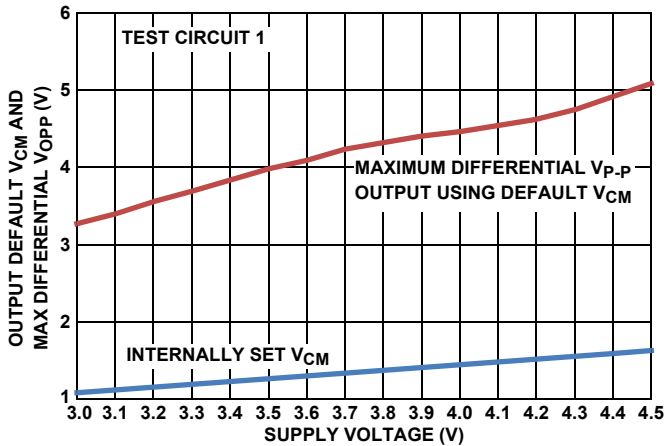
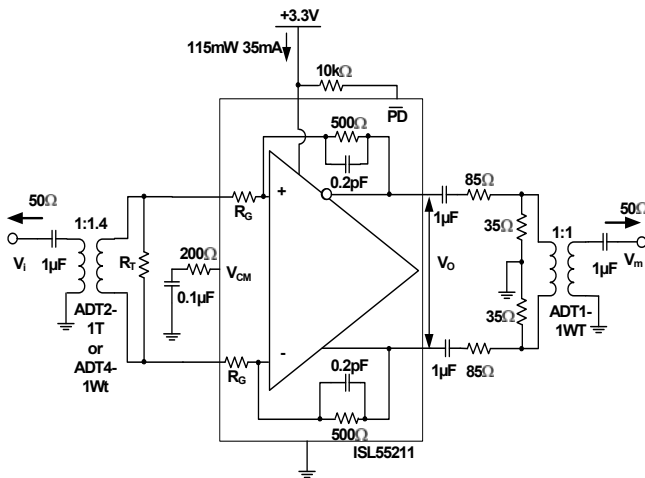
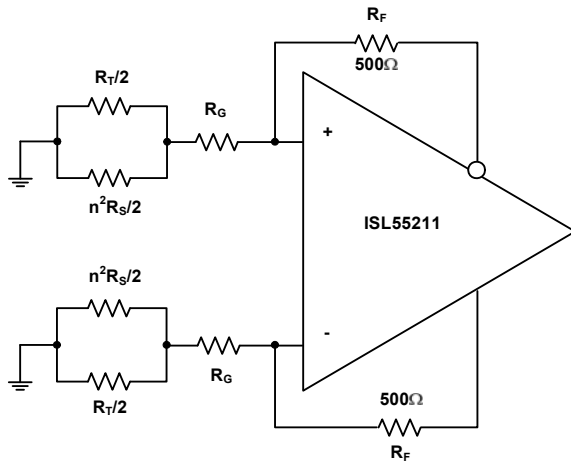
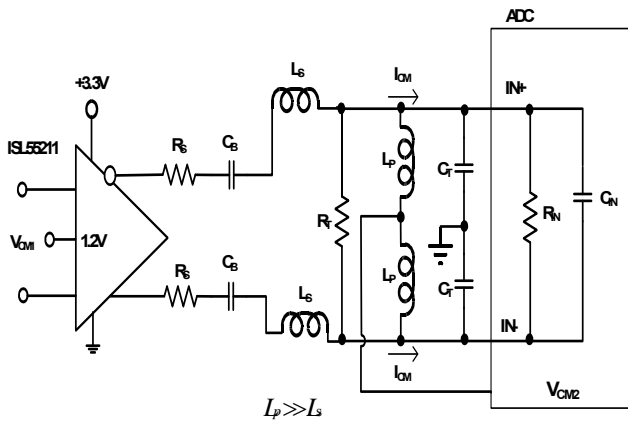

FIGURE 27. DEFAULT  $V_{CM}$  AND MAX  $V_{OPP}$  vs SUPPLY VOLTAGE
FIGURE 29. TEST CIRCUIT 1
FIGURE 35. NOISE GAIN MODEL FOR THE TRANSFORMER COUPLED INPUT CIRCUIT OF FIGURE 29
FIGURE 37. AC-COUPLED, HIGHER FREQUENCY RLC INTERSTAGE FILTER DESIGN
Test Circuit 1 of Figure 29 forms a starting point for many of the characterization curves for the ISL55211. Since most lab sources and measurement devices are single-ended, this circuit converts to differential at the input through a wideband transformer and would also be a typical application circuit coming from a single-ended source. Assuming the source is a 50 $\Omega$  impedance, the internal  $R_G$  resistors and external  $R_T$  are set to provide both the input termination and the gain. Since the inverting summing nodes act as virtual ground points for AC signal analysis, the total termination impedance across the input transformer secondary will be  $(2 * R_G) || R_T$ . Setting this equal to  $n^2 * R_S$  will give a matched input impedance inside the bandwidth of the transformer (where "n" is the turns ratio). The amplifier gain is fixed by the selected input  $R_G$  element and the internal 500 $\Omega$  feedback resistors. While the ISL55211 is internally a Voltage Feedback Design (VFA) to give the lowest possible noise, internal compensation caps hold the bandwidth over gain setting approximately constant at 1.4GHz. For wider small signal bandwidth at lower gains, consider the ISL55210, which provides >2.2GHz at a gain of 12dB.
Working with a transformer coupled input as shown in Figure 29, or with two DC blocking caps from a differential source, means the output common mode voltage set by either the default internal  $V_{CM}$  setting, or a voltage applied to the  $V_{CM}$  control pin, will also appear as the input common mode voltage. This provides a very easy way to control the ISL55211 I/O common mode operating voltages for an AC-coupled signal path. The internal common mode loop holds the output pins to  $V_{CM}$  and, since there is no DC path for an  $I_{CM}$  current back towards the input in Figure 29, that  $V_{CM}$  setting will also appear as the input common mode voltage. It is useful, for this reason, to leave any input transformer secondary centertap unconnected. The internally set  $V_{CM}$  voltage is referenced from the negative supply pin. With a single 3.3V supply, it is very close to 1.2V but will change with total supply voltage across the device as shown in Figure 27.
Most of the characterization curves starting with Figure 29 then get different gains by changing the connections to the two pairs of input  $R_G$  connections, as shown on the pin configuration drawing on page 2. Two input turns ratios are intended for Test Circuit 1; either a 1:1.4 turns ratio (ohms ratio of 2) or a 1:2 turns ratio (ohm ratio of 4). The specific transformers shown in Figure 29 are representative of broadband RF transformers but alternate devices and manufacturers of these turns ratio devices are certainly applicable. The output side of this test circuit presents a differential 200Ω load while converting the differential to single-ended through a resistive attenuator and a 1:1 transformer. This inserts approximately a 17dB insertion loss that is removed to report the characteristic curves. For load tests below the 200Ω shown in Figure 29, a simple added shunt resistor is placed across the output pins. For loads > 200Ω, the series and shunt load R's are adjusted to show that total load (including the 50Ω measurement load reflected through the 1:1 output measurement port transformer) and provide an apparent 50Ω differential source to that transformer. This output side transformer is for measurement purposes only and is not necessary for final applications circuits. There are output interface designs that do benefit from a transformer as part of the signal path as shown in Figure 1. In that case, the 1:1.4 output side transformer becomes part of a filter design and recovers the filter insertion loss from the amplifier output pins to the ADC inputs.
The characterization circuit of Figure 29 shows one possible input stage interface that offers several advantages. Where AC coupling is adequate, the circuit of Figure 29 simplifies the input common mode voltage control. If the source coming into this stage is single-ended, the input transformer provides a zero power conversion to differential. The two gain resistors ( $R_G$  in Figure 29) provide both a portion of the input termination impedance and the gain element for the amplifier. For 50Ω systems, these  $R_G$  resistors are too high with the turns ratios shown in Figure 29 to provide the full match and an external  $R_T$  resistor is required. This  $R_T$  element goes away at the highest gain setting using a 1:2 input turns ratio transformer.
This input interface also simplifies the input common mode control. The  $V_{CM}$  pin controls the output common mode voltage. In most DC-coupled FDA applications, the input common mode voltage is determined by both this output common mode and the source signal. In a configuration like Figure 29, there is no path for a common mode current to flow from output to input, so the input common mode voltage equals the output. A similar effect could be achieved with just two blocking caps on the two  $R_G$  resistors. A DC-coupled, single to differential, configuration will also have a common mode input that is moving with the input signal. Converting to just a differential signal at the amplifier, as in Figure 29, removes any input signal related artifacts from the input common mode making the ISL55211 behave as a differential only VFA amplifier. There is only a very small differential error signal at the inputs set by the loop gain, as in a
of 1.3V for instance, then  $1.3V + 0.9V + 1.5V = 3.7V$  will give an unclipped  $3.6V_{P,P}$  output capability. The  $V_{P,P}$  reported in Figure 27 is an asymmetrically clipped maximum swing. Going 10% above this 3.7V target to 4.1V will be within the recommended operating range and give some tolerancing headroom that would also suggest the  $V_{CM}$  voltage be moved up to approximately 1.5V, which coincides with the default output  $V_{CM}$  from Figure 27. Operating at +4.1V single supply in a Figure 29 type configuration will give the maximum linear differential output swing of  $3.6V_{P,P}$ .
The differential inputs internal to the ISL55211 also have operating range limits relative to the supply voltages. Operating in an AC-coupled circuit like Figure 29 will produce an input common mode voltage equal to the outputs. The inputs can operate with full linearity with this  $V_{CM}$  voltage down to 1.1V above the  $-V_S$  supply. On the default 1.2V output  $V_{CM}$  on +3.3V supplies this gives a 100mV guardband on the input  $V_{CM}$  voltages. Overriding the default  $V_{CM}$  by applying a control voltage to the  $V_{CM}$  pin should be done with care in going towards the negative supply due to this limit. On the + side, the maximum input  $V_{CM}$  above the  $-V_S$  supply is 2V so there is more room to move the output  $V_{CM}$  up than down from the default value.
+85°C maximum operating ambient from Figure 27, we get  $4.5V \times 45mA \times 120^\circ C/W = +24^\circ C$  rise above +85°C or approximately +109°C operating  $T_j$  maximum - still well below the specified Absolute Maximum operating junction temperature of +135°C.
Adding an input transformer can improve the input referred noise by adding a noiseless voltage gain. Starting from Test Circuit 1 of Figure 29, and assuming the source shows a matched broadband source  $R_S$  that will be matched by the input referred parallel combination of  $2 * R_G || R_T$ , a noise gain analysis circuit can be developed as shown in Figure 35.
Stepping through the 3 gain settings with two input transformers will allow the noise gain to be calculated for the circuit of Figure 35, which is all that is needed in Equation 1 to arrive at an output differential noise (since  $R_F$  is fixed at 500 $\Omega$ ). Doing this gives Table 4.
2. AC-coupled, higher frequency range interstage filter design. This design replaces the  $R_T$  resistors in Figure 35 with large valued inductors and implements the filter just using shunt resistors at the end of the RLC filter. In this case, the ADC  $V_{CM}$  can be tied to the centerpoint of the bias path inductors (very much like a Bias-T) to provide the common mode voltage and current to the ADC inputs. These bias inductors do limit the low frequency end of the operation where, with  $1\mu\text{H}$  values, operation from 10MHz to 200MHz is supported using the approach of Figure 37.